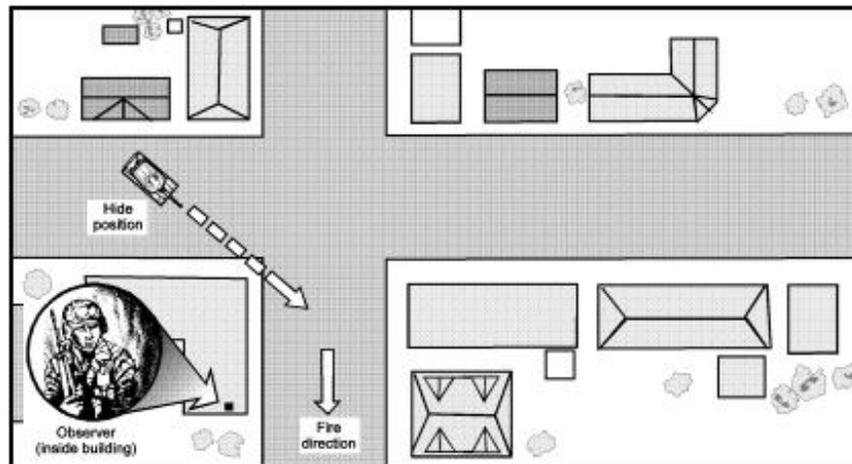

Figure 7. Example vehicle hide position in an urban environment.
- Since the crew will not be able to see the advancing enemy from the hide position, an observer from the tank or a nearby infantry unit must be concealed in an adjacent building to alert the crew (see Figure 7). When the observer acquires a target, he signals the tank to move to the firing position and, at the proper time, to fire.